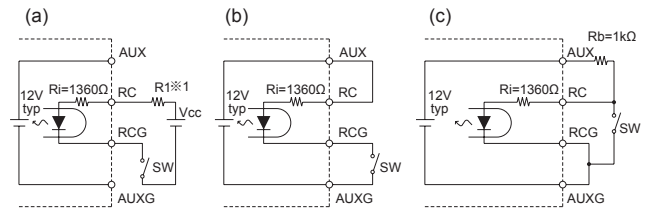

Fig.1.3 Examples of connecting method for remote ON/OFF
- The remote ON/OFF function can be operated by sending signals to CN3. Please see Table 1.2 and Table 1.3 for specifications and Fig.1.3 for connecting examples.
- ① The output stops when a current flows to RC.
- ② The current flow to RC is a 15mA max.
- ③ If the output voltage is turned off through the remote ON/OFF circuit, the WRN signals and the PG signals keep "Low".
- ④ Description in this section is based on the assumption that you will use one unit alone. If you are planning to use the units in parallel operation or use multiple units for a single system, please check necessary voltage and current values.
Table 1.3 Specifications of remote ON/OFF (Case of Fig.1.3)